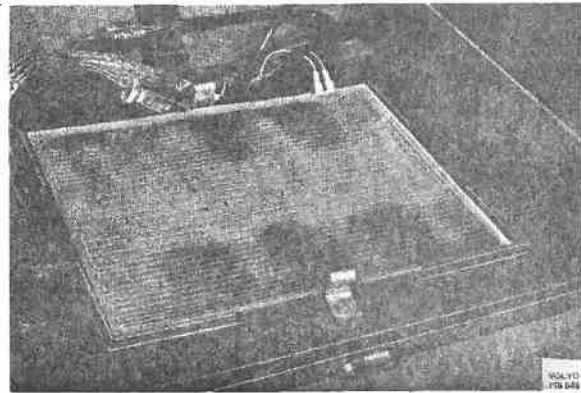

Fig. 31-4. Battery heater
2. Disconnect the cables from the battery heater, see Fig. 31-4.